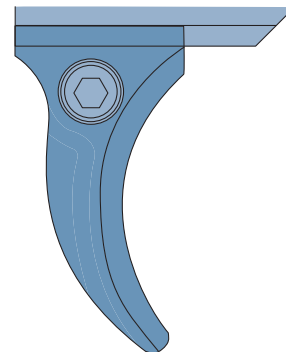
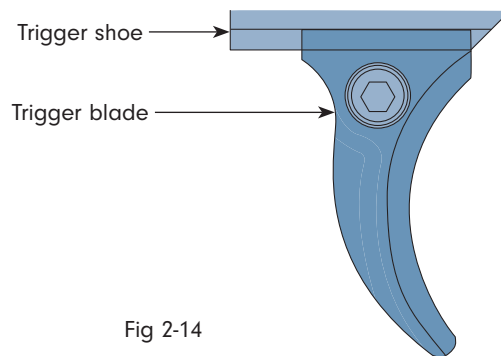

Fig 2-13
Fig 2-14
- Note: The trigger blade clamp must remain in complete contact with the trigger shoe (see Fig 2-13 and Fig 2-14).